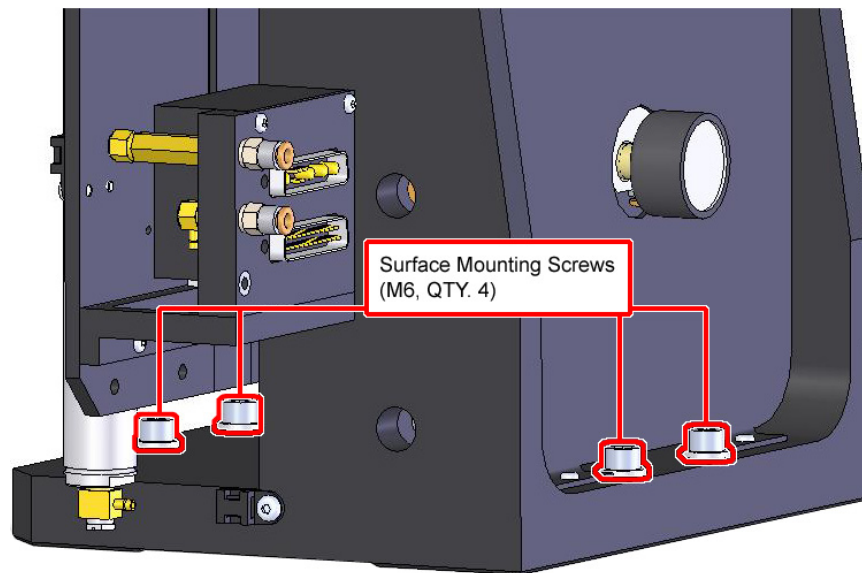

Figure 2-3: Surface Mounting Screws
4. Tighten the four mounting screws (Figure Figure 2-3). The typical torque value for M6 socket head cap screws is 7 N-m.